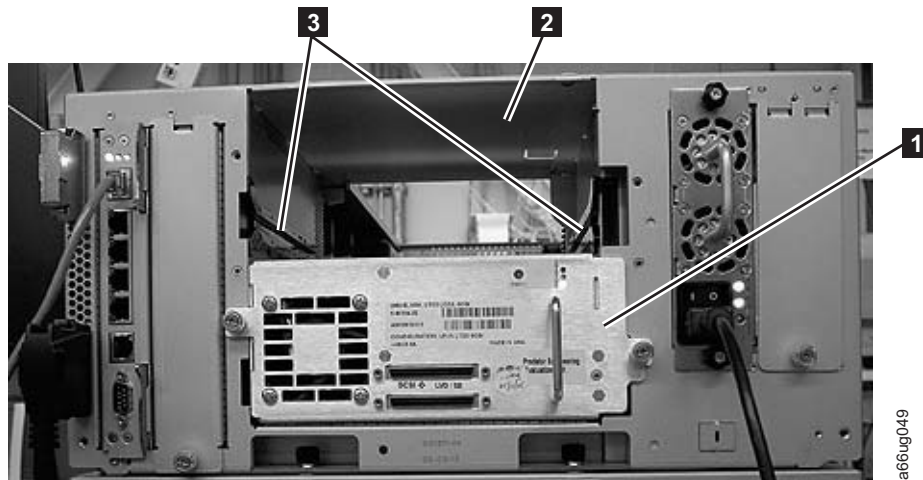

Figure 3-28. Guide rails and guide slots inside a drive slot
1. Align the drive sled with the guide rails and guide slots along the tracks (**3** in Figure 3-28).